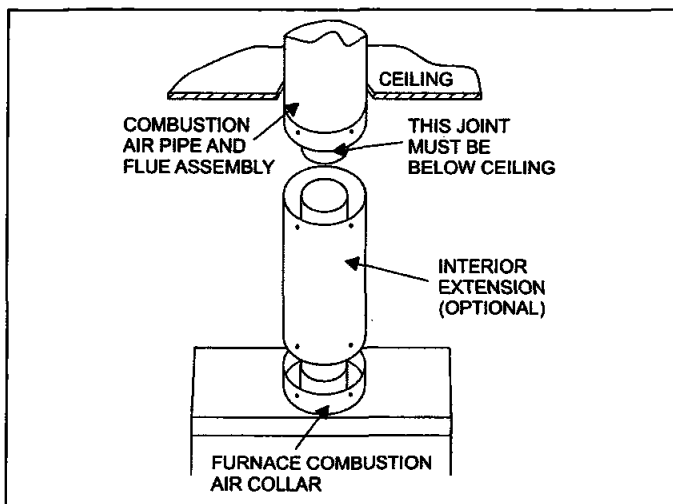

FIGURE 24: Roof Jack Assembly
2. Pull the Roof Jack's telescoping section down onto furnace. Fully engage Roof Jack onto Vent Connector and Air-Intake Connector and compress gasket. See Figure 24. Refer to Interior Roof Jack Extension installation instructions, if applicable.
To choose the proper length roof jack with or without the optional extension see Figure 24 and Table 8. More than one interior extension may be used to accommodate A "dimensions up to 110" (284.5 cm).
If using an optional interior extension, place extension down on furnace top and mate with furnace flue and combustion air collar until it lines up with screw holes in combustion air collar. Secure the extension to the furnace using the pre-punched holes. Use 1/2" (1.27 cm) blunt or sharp end sheet metal screws to fasten roof jack combustion air pipe to furnace combustion air collar. Screw holes are provided in pipe and collar. Excessively long screws may extend to flue pipe and puncture it. If substitute screws are used, they must not exceed 1 1/2" (3.81 cm) in length. Pull the roof jack flue and combustion air pipe assembly down and mate with extension flue and combustion air pipes until the screw holes line up. See Figure 24. Fasten interior extension to combustion air pipe assembly with sheet metal screws not exceeding 1 1/2" (3.8 cm) in length.